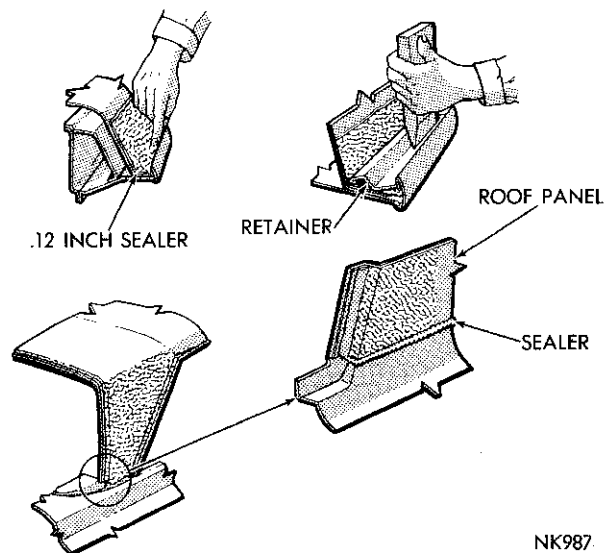

Fig. 177—Installing Cover Side Retainers (Chrysler)
(20) Apply a bead of sealer in the drain trough and smooth out to seal the edge of the cover (Fig. 177).
(21) Snap in the front roof panel cover side retainers, making sure they are firmly seated.
(22) Snap in the rear roof panel cover side retainers, making sure they are firmly seated.
(23) Apply a bead of sealer over the exposed edges of the trimmed cover at the lower edges of the roof panels. Smooth out to effect a proper seal.